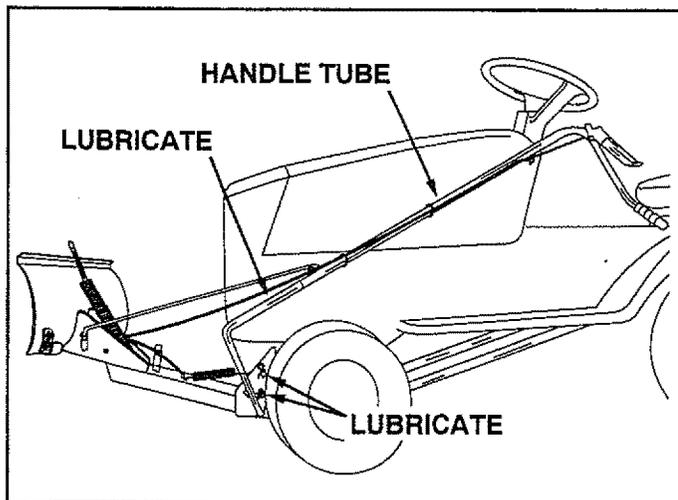

FIGURE 32
- Lubricate the points shown in figure 32 for easier operation. Use the grease packet furnished with the snow blade for lubrication of the lift handle rod and the lift handle tube assemblies.